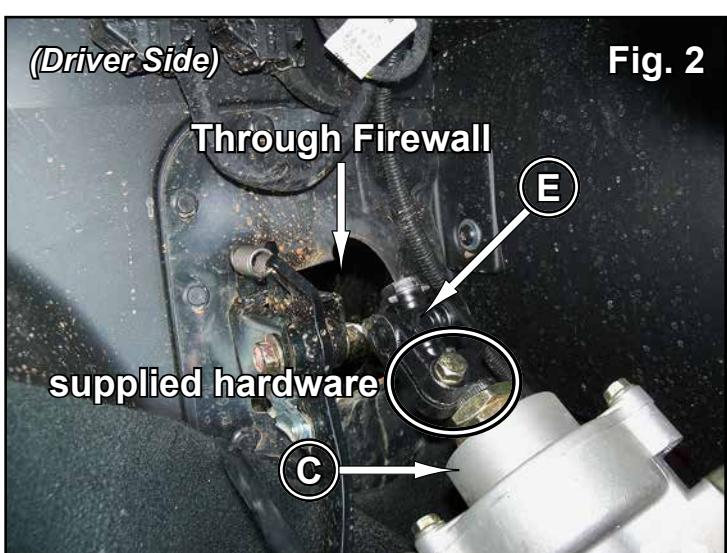

**Fig. 3**
3. Install Upper Shaft (D) to stock Steering Stem. Secure with supplied hardware. See Figs. 3 - 3a.